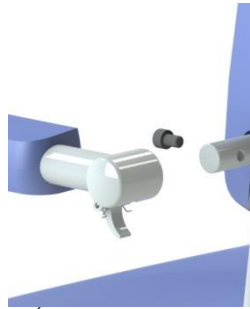

Figure 13 Armrest
- Allen key 6mm
- Check its room for motion, measured at the front point (replace if it is more than 4 cm.) (See figure 13).